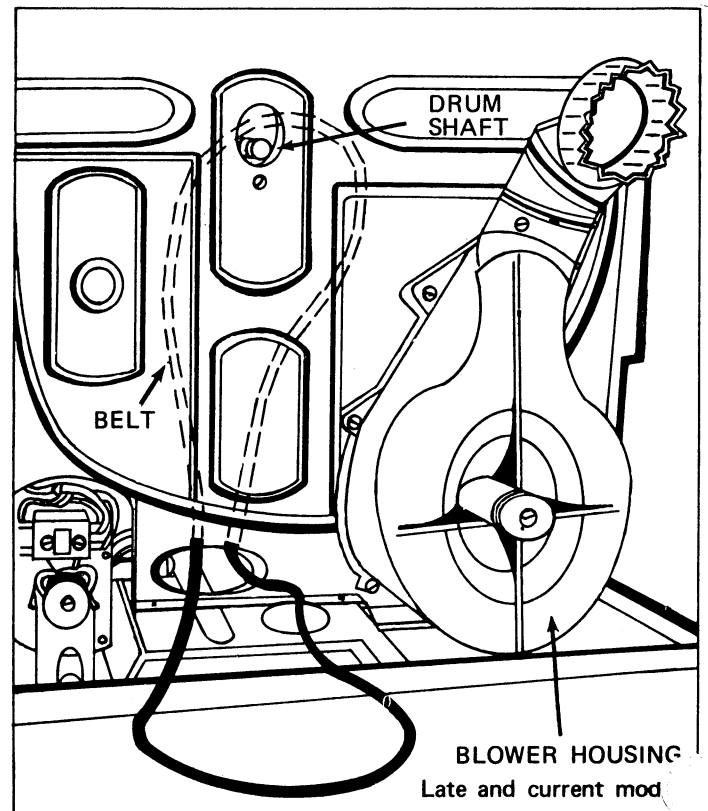
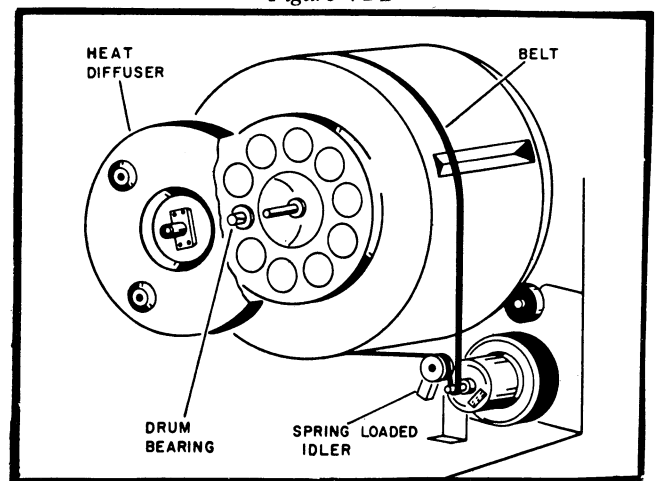
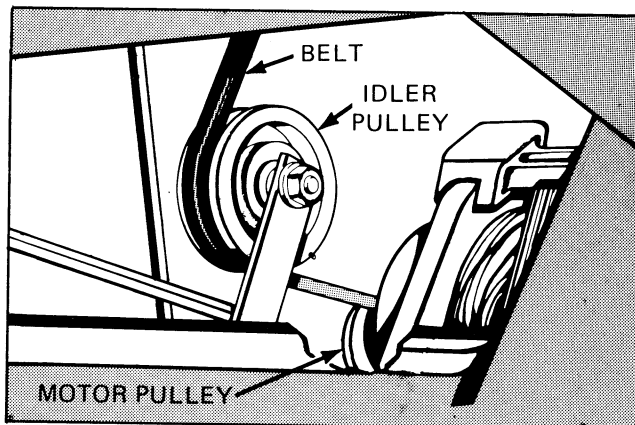

Figure 42B
Figure 42C
Figure 42D
7. Reach through lower opening in rear frame and up past drum seal to pull belt down through rear frame opening. (Figure 42B)
9. Holding right side of belt, (Figure 42B) Reach in through lower opening in rear frame and hold belt (grooves up) against bottom of drum approximately two inches past drum seal.
The current type motors in use on Speed Queen Dryers have two shafts. The rear shaft drives the drum belt and uses the outside of the drum as a pulley, a typical illustration is shown in *Figure 42C*. The other end of the motor shaft drive the exhaust fan. Unlike earlier models that use a separate exhaust fan assembly as illustrated in *Figure 42B*, current models have the exhaust fan mounted to the motor and the exhaust fan is driven directly from the motor shaft. A typical illustration is shown in *Figure 42D*.